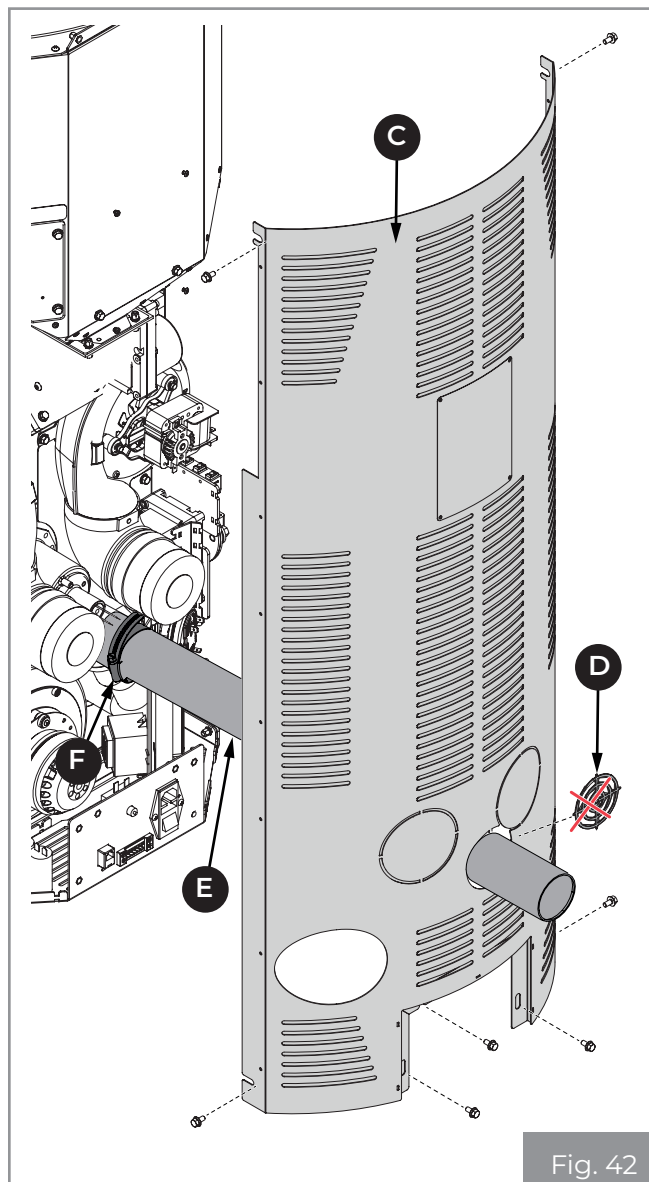

Fig. 42
- Remove the preform **(D)** on the back panel **(C)** and insert the flexible hose **(E)** to connect it to an outside air intake (**Fig. 42**).